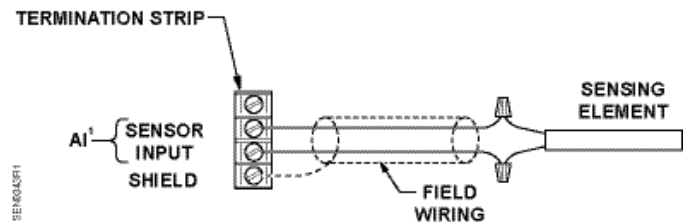

Figure 3. Wiring Diagram.
5. Connect the field wiring to the controller as shown in the wiring diagram. See Figure 3.
9. Connect the field wiring at the controller as shown in the wiring diagram. See Figure 3.